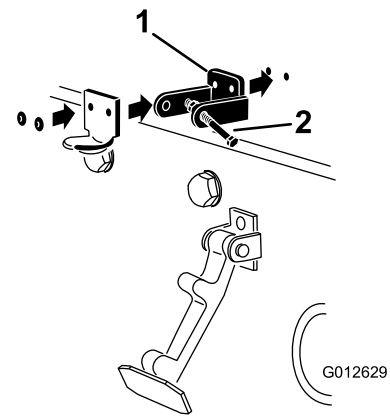

Figure 9
4. While aligning the mounting holes, position the CE lock bracket and the hood-latch bracket onto the hood (Figure 9).
6. Rivet the brackets and the washers to the hood (Figure 9).